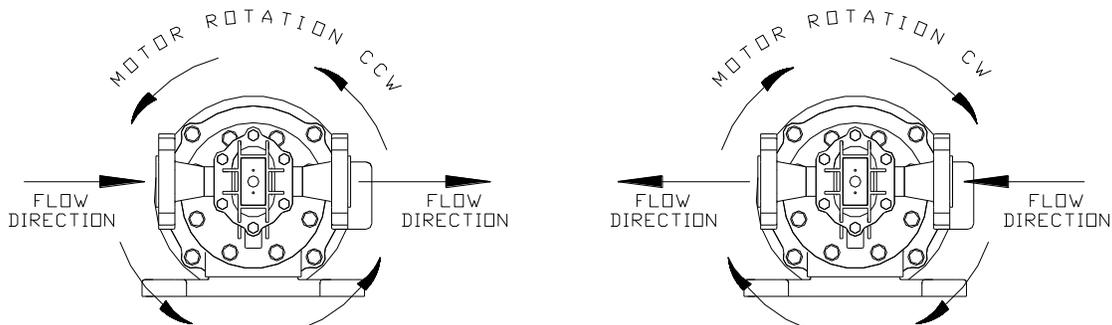

Figure 2b – Flow vs. Motor Rotation
- Direction of flow is dependent on direction of motor rotation. Reversing the motor direction, and therefore the drive shaft rotation direction, reverses flow. This will also change which port is the suction and which is the discharge, see Figure 2b. Since the Eclipse Series pumps can be installed both horizontally (standard) and vertically, it is very important to identify the suction pipe connection which will determine the required motor rotation.
- ✓ **Confirm Flow Direction** - As noted in **Section 3 Installation**, Eclipse Series pumps are bi-directional; the direction of flow is determined by the direction of motor rotation. Refer to Figure 2b.